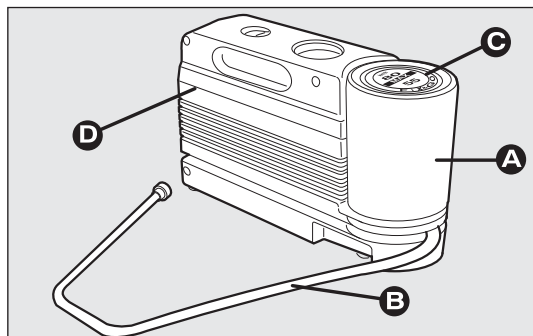

fig. 156
The kit fig. 156 includes:
- compressor D-fig. 156 including gauge and connections;